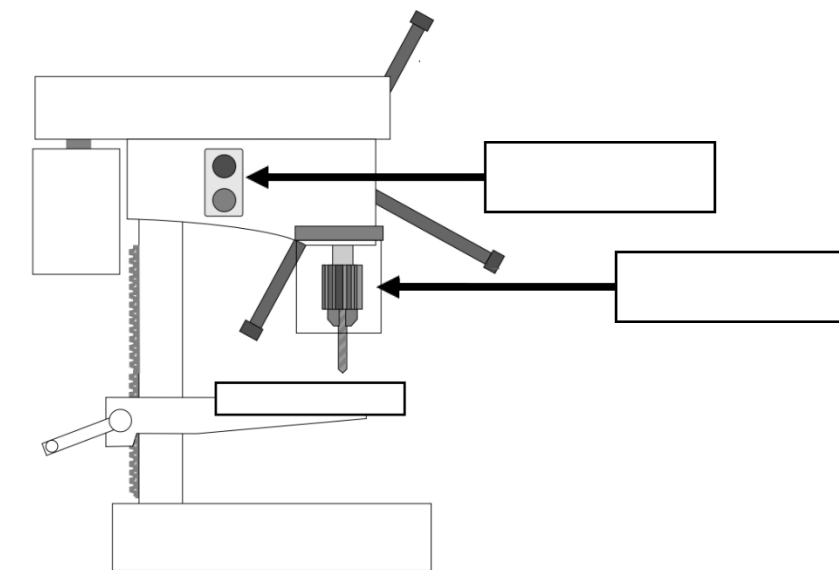

Figure 6
b. A bench drill is used to drill the holes in the base of the lamp. Name the safety parts of the bench drill depicted in Figure 6.